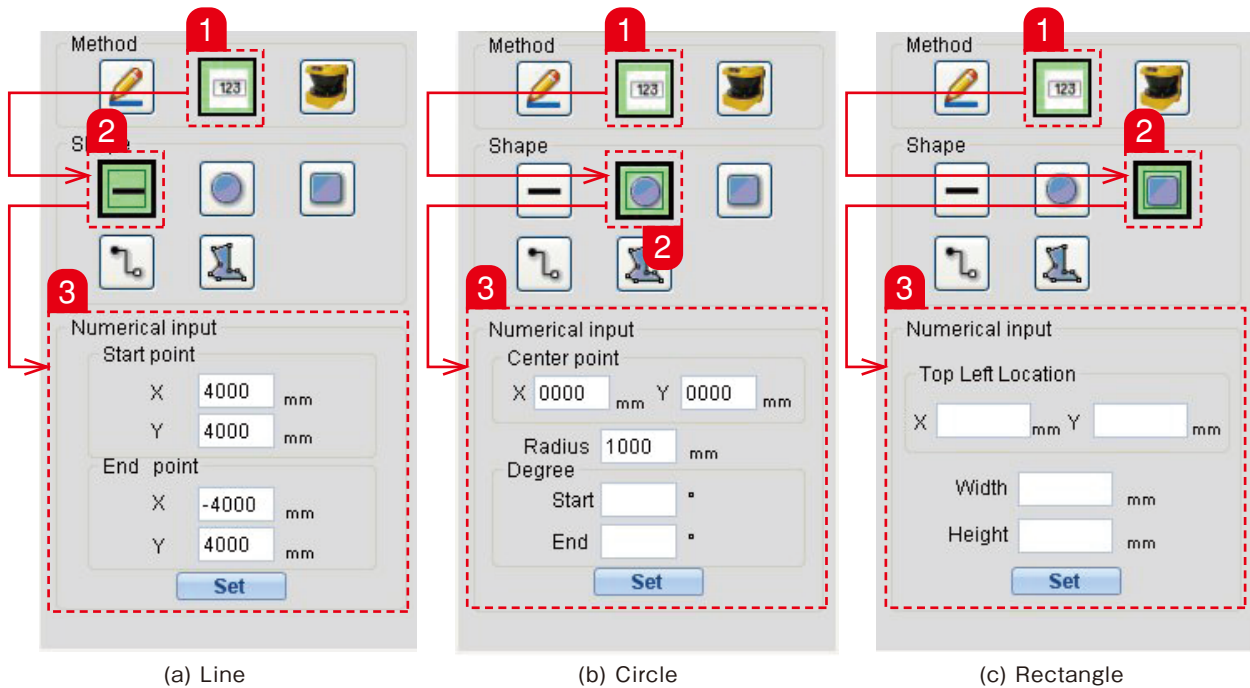

Figure 7-35. Numeric input
- Click on the [Circle]  button or other drawing tool. The numeric input boxes will change accordingly to the selected drawing tool. Different drawing tool required different parameters. Figure 7-35 shows the different parameters of the various drawing tool.